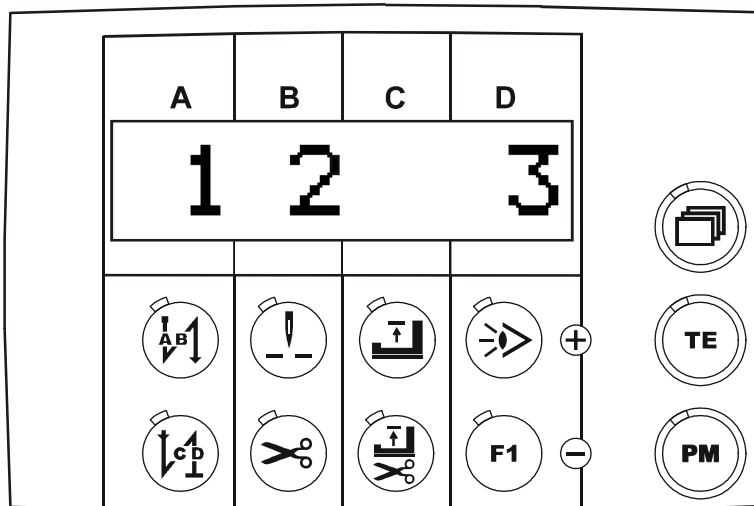

Fig. 9.9
- Keep these two keys pressed until "1 2 3" (Fig. 9.9) appears on the display; then release the keys.